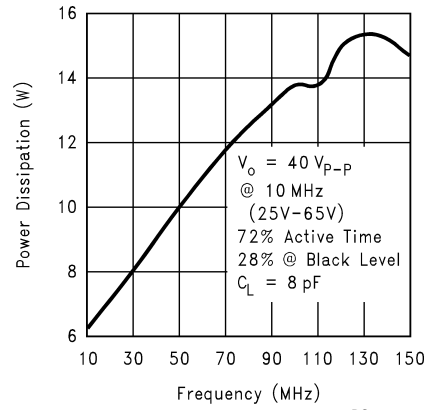

FIGURE 6. Power Dissipation vs Frequency
Figure 6 shows the total power dissipation of the LM2412 vs. Frequency when all three channels of the device are driving an 8 pF load. Typically the active time is about 72% of the total time for one frame. Worst case power dissipation is when a one on, one off pixel is displayed over the active time of the video input. This is the condition used to measure the total power dissipation of the LM2412 at different input frequencies. *Figure 6* gives all the information a monitor designer normally needs for worst case power dissipation. However, if the designer wants to calculate the power dissipation for an active time different from 72%, this can be done using the information in *Figure 14*. The recommended input black level voltage is 1.9V. From *Figure 14*, if a 1.9V input is used for the black level, then power dissipation during the inactive video time is 2.7W. This includes both the 80V and 12V supplies.
3. Subtract the 0.8W from the power dissipation from *Figure 6*. For 100 MHz this would be 13.8 – 0.8 = 13.0W.
The LM2412 case temperature must be maintained below 100°C. If the maximum expected ambient temperature is 70°C and the maximum power dissipation is 13.8W (from *Figure 6*, 100MHz) then a maximum heat sink thermal resistance can be calculated: